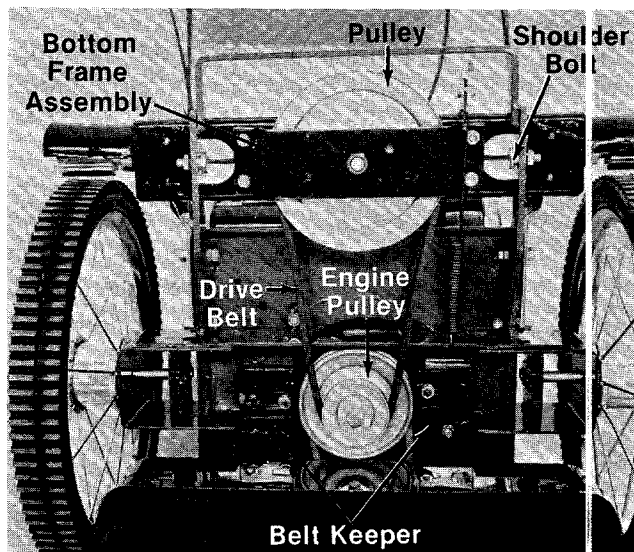

FIGURE 20.
**Drive Belt (See Figure 20)**
1. Unhook the spring. Remove the shoulder bolts, lock washers and hex nuts which secure the drive mechanism to the frame. See figure 20.
2. Remove the drive belt from the engine pulley. See figure 20.
3. Remove the belt keeper from each side of the engine pulley. See figure 20.